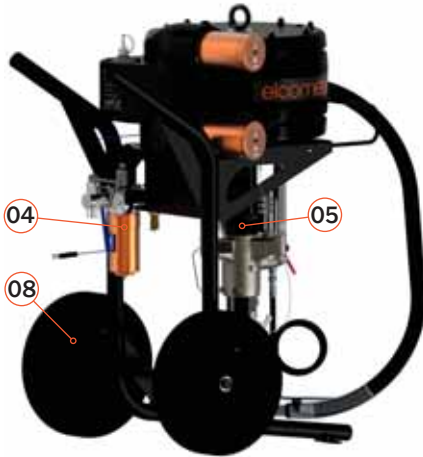

Fig.1
- 04** Air regulator-purifier (Fig. 1)
- 05** Shaft protection cover (Fig. 1)